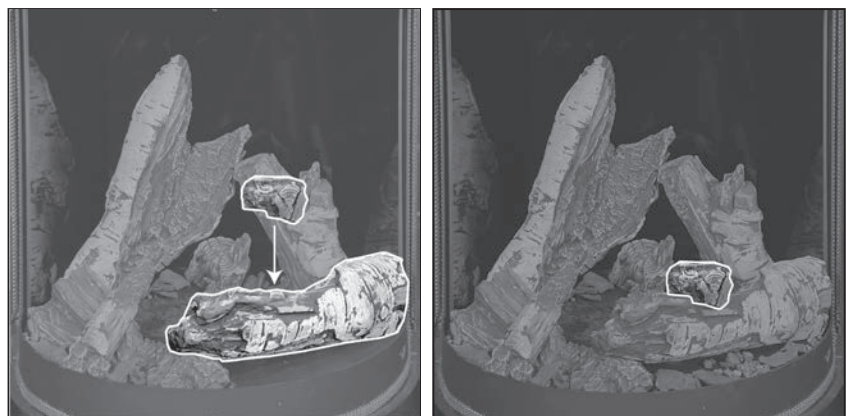

Figure 100: Step 8 - Log 8
STEP 8: Log 8 should notch onto Log 7 nicely. See Figure 100.